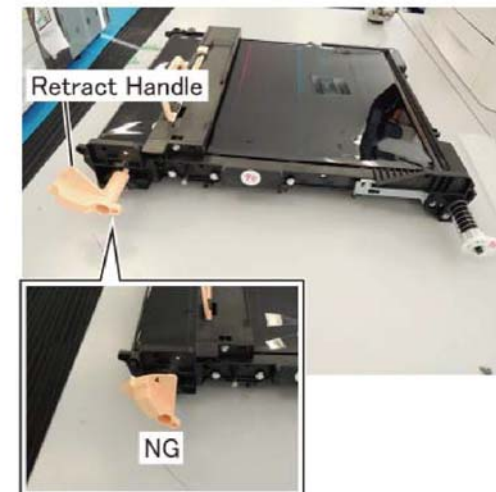

Figure 3 Correct retract handle position
3. When installing the IBT belt unit, make sure the retract handle is in the position as shown, Figure 3.